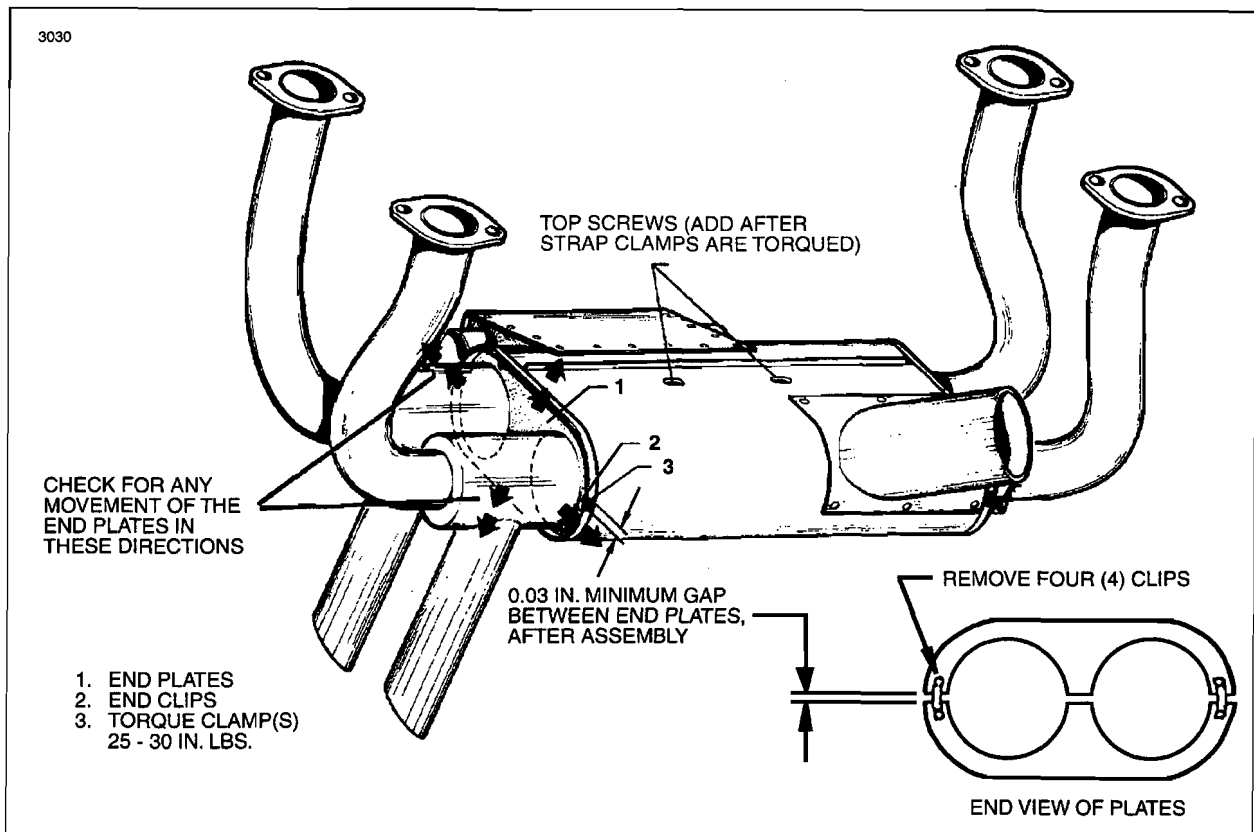

Figure 3-20. Exhaust System Installation, PA-28R-180, -200
### (19) FIELD CHECK OF PA-28R-180 and PA-28R-200 MUFFLER ASSEMBLIES. (Refer to Figure 3-20.)
- (b) Check for any movement between the heater muff end plates and the muffler pipes in the directions shown on Figure 3-20. If there is no movement, the muffler assembly is acceptable.